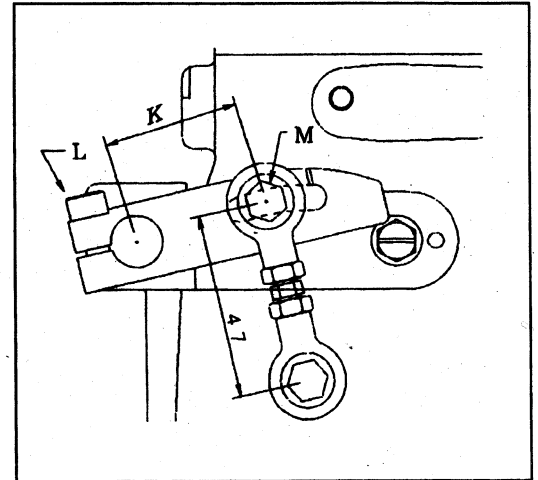

Fig.6
The adjustment should be made by opening top cover and adjust the timing pulley position after loosening screw (A). See Fig 6.